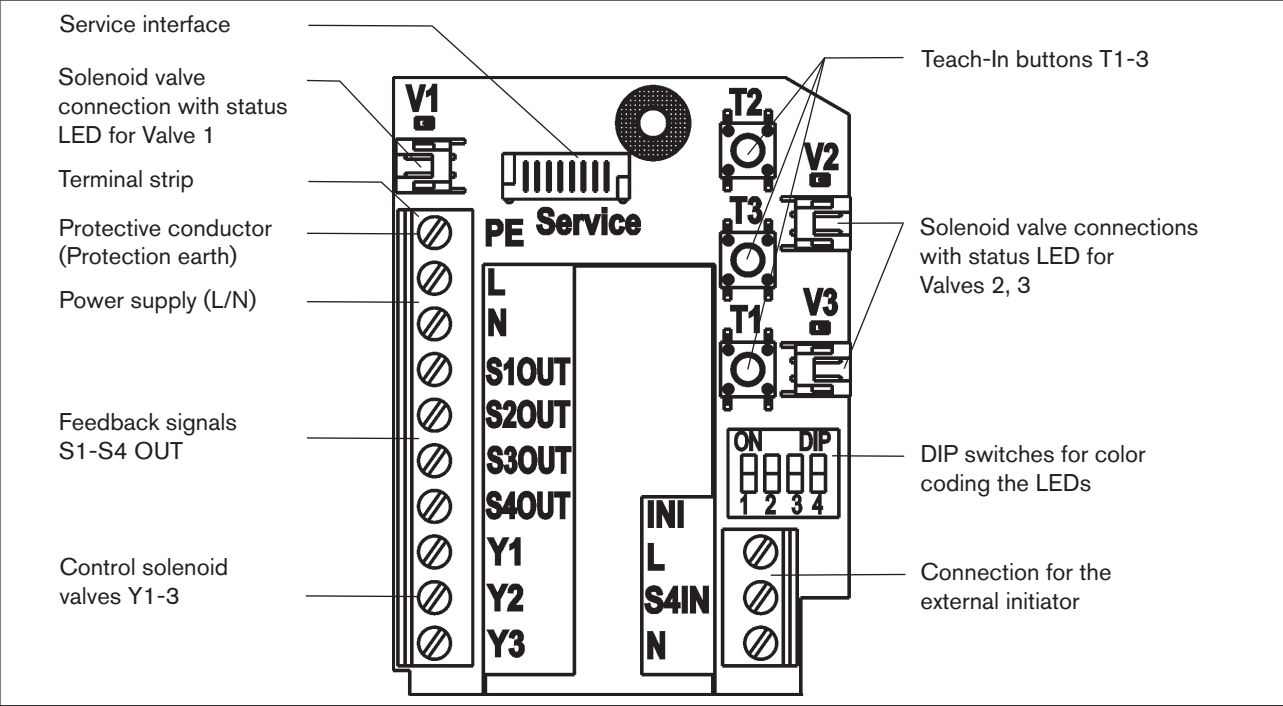

Fig. 31: 120 V AC electronics module
- Connect the wires to the connection terminals according to the connection configuration described in “Fig. 31: 120 V AC electronics module”. If required, secure the cable with a cable clip.